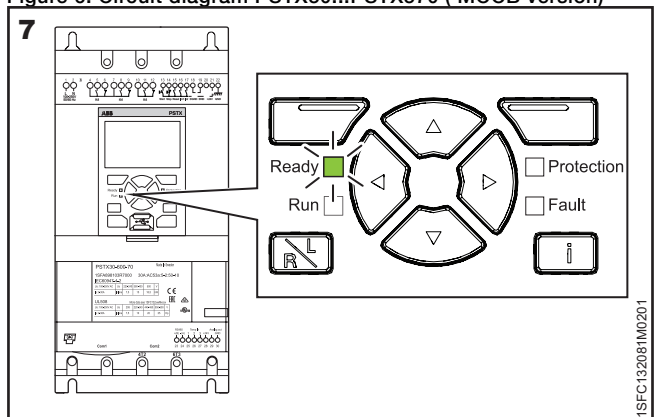

Figure 7: Flashing "Ready" LED
10. The green "Ready" LED will flash on the HMI, see **Figure 7**.